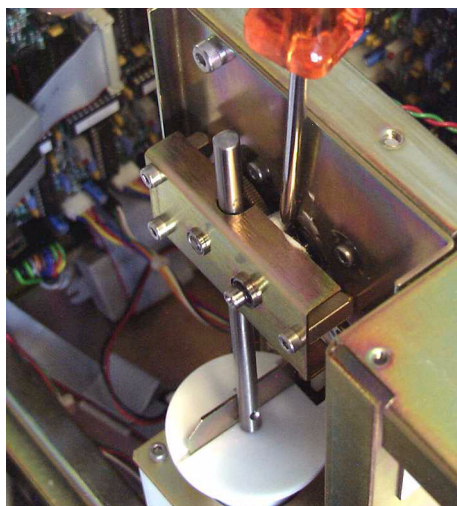

Fig.18: Vacuum syringe lubricating
- ◆ Spread a little amount of grease on the gearings and on cogs of the piston axis (See “Fig.18: Vacuum syringe lubricating, page 12”).